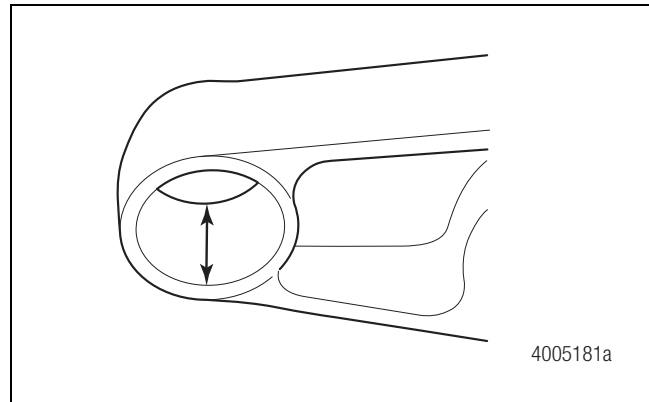
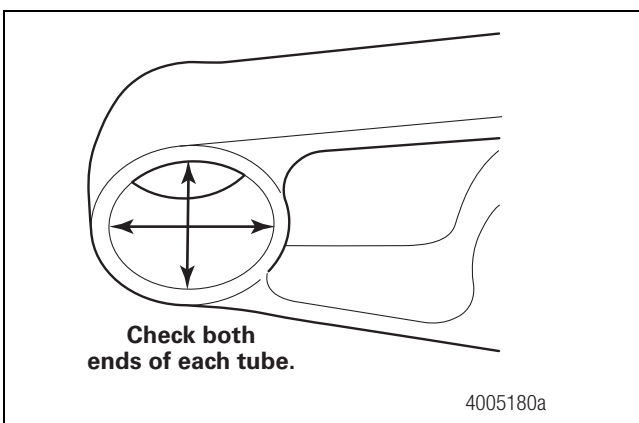

Figure 4
Figure 3
- A. You must measure the bore diameter and bushing tube length of all four upper control arm bushing tubes before you install the new bushings. The bore diameter must be 2.240-2.250-inches (56.896-57.150 mm). Figure 3. The bushing tube length must be 2.590-inches (65.786 mm) or greater. Figure 4.